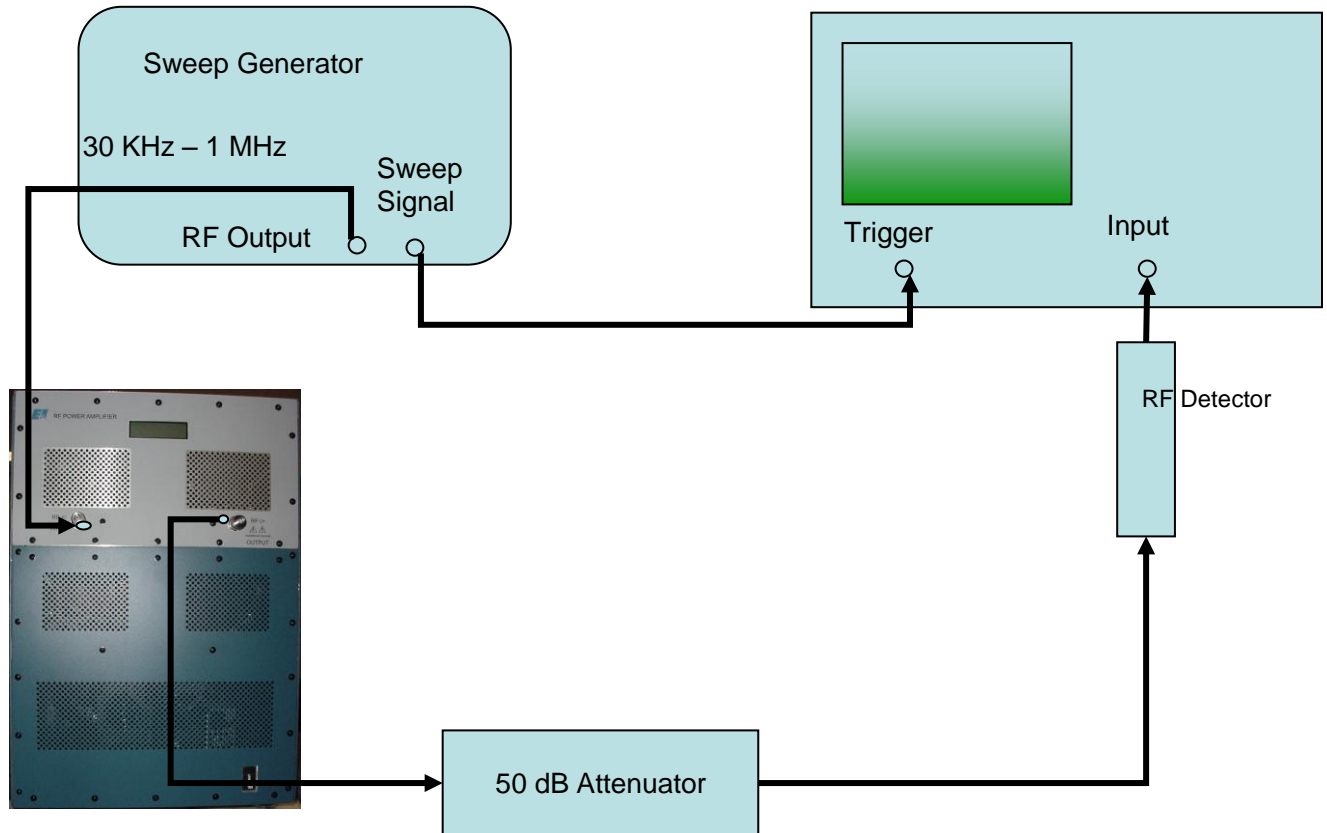

Figure 4-1. Gain Measurement
#### 2. Connect the equipment as shown in Figure 4-1, then proceed as follows:
- g) Reconnect the 1240L into the test set-up of Figure 4-1.